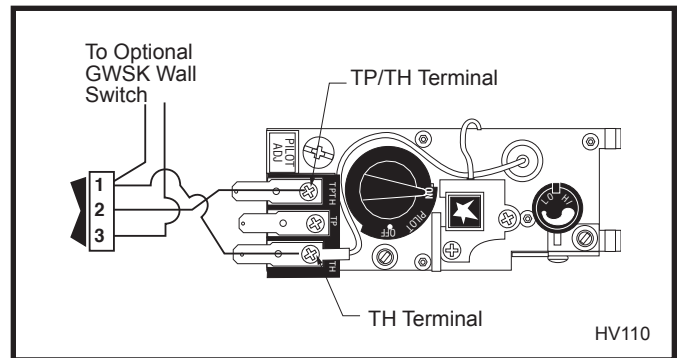

Fig. 9 Connecting a wall switch to the valve terminals.
3. Connect the remaining ends of the optional switch to the valve at Terminal 3 and the tab connector on Terminal 1. (Fig. 9)